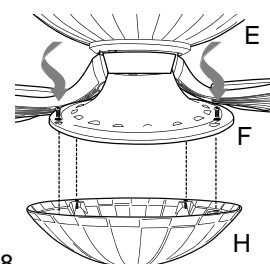

Fig. 8
8. Remove one screw from inside glass shade (H) and partially loosen the other three screws. Align the three loosened screws in glass shade (H) with slotted holes in shade fitter (F). Twist glass shade to lock. Re-insert screw that was previously removed and secure all four screws with a Phillips screwdriver. [Fig. 8]
**Tip:** Use a short Phillips screwdriver for easier access to screws in shade fitter (F).